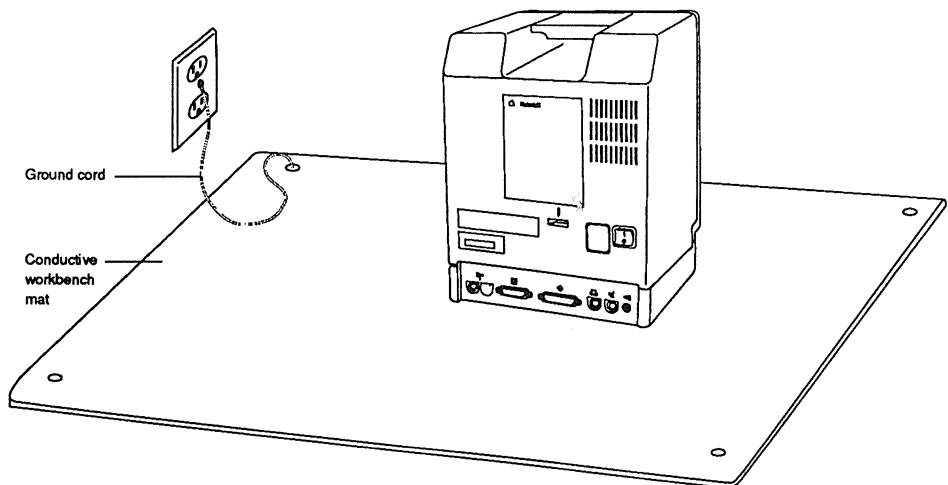

Figure 2. Grounding the workbench mat
3. Lay out the conductive workbench mat. Use the ground cord to connect the mat to earth ground or to a building ground. Connecting the ground cord to the wall outlet box, as shown in Figure 2, is usually adequate, but to be certain about how to ground the mat, check with an electrician.